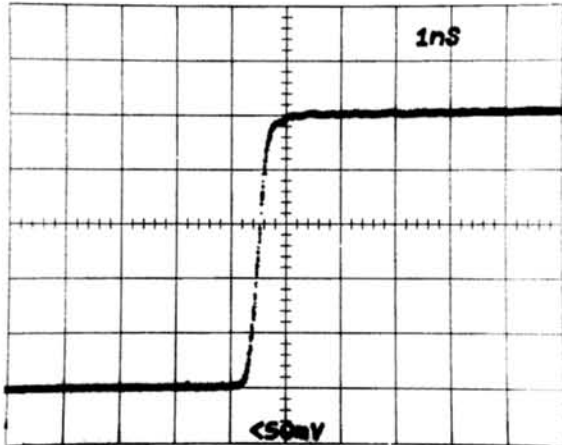

Fig. 7-10. 284 Step Signal. Variable VOLTS/DIV set for 5 divisions.
k. Set the red CH 1 VOLTS/DIV variable CAL control so the amplitude of the step is precisely five divisions (see Fig. 7-10).